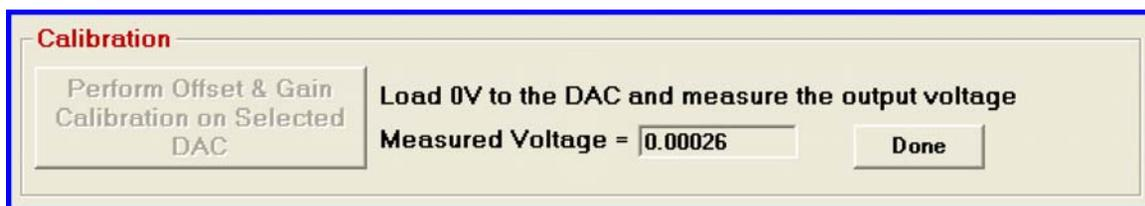

Figure 3. Calibrating For Offset Error
2. In the **Calibration** section, click the **Perform Offset & Gain Calibration on Selected DAC** button. The calibration section display changes as shown in Figure 3.